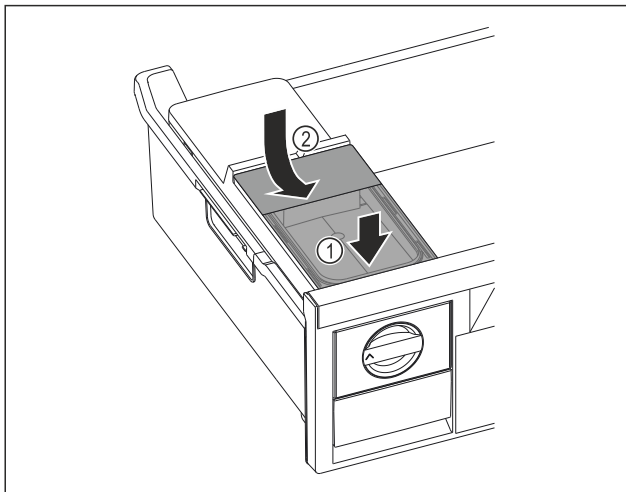

Fig. 125
- ▶ Position the water tank at the front. Fig. 125 (1)
- ▶ Lower the water tank at the rear. Fig. 125 (2)